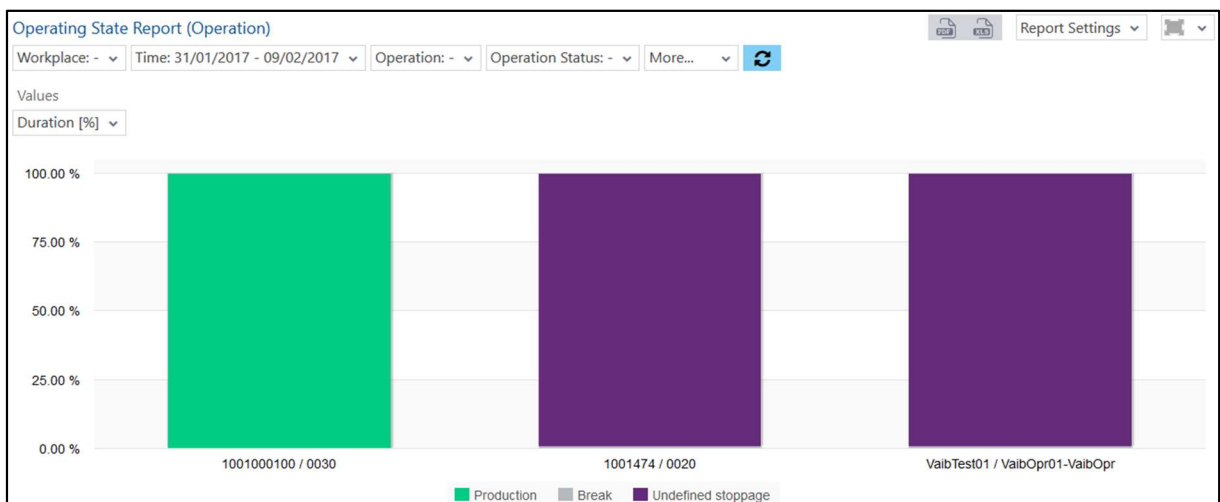

Fig. 83: Operating State Report (Operation) as a column chart
- Operating State Report (Operation) as a column chart (Fig. 83):